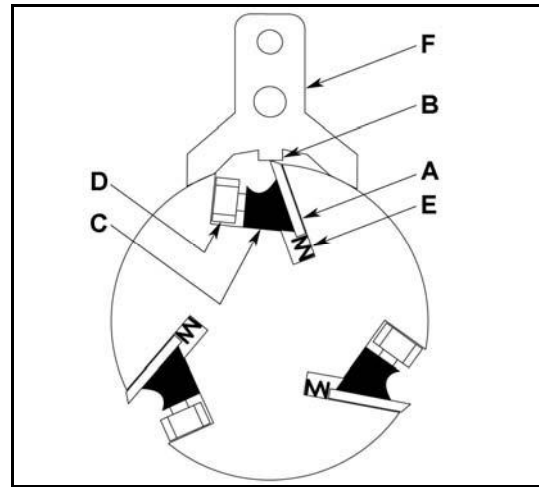
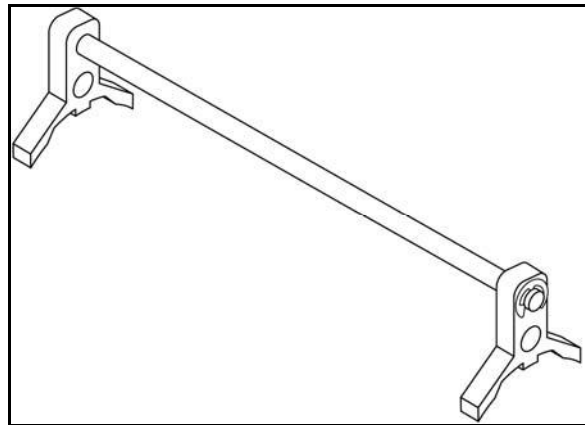
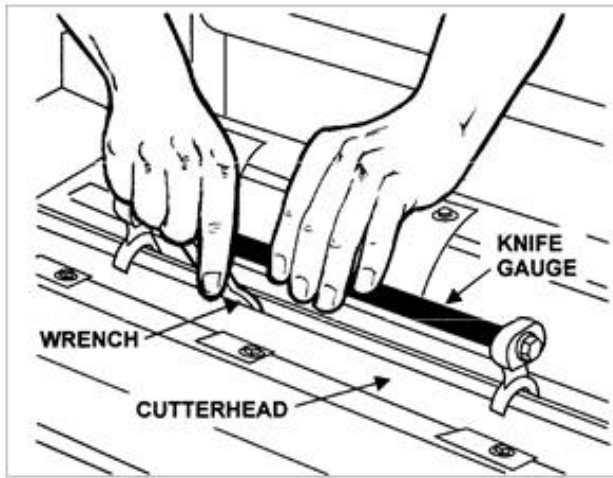

Figure 21
Figure 22
Figure 23
3. To check and adjust the knives, use the provided knife gauge (Fig. 22) and check all three knives. Press the knife gauge against the cutterhead as shown in Figure 23.
Referring to Figure 21:
7. After all three knives are set with screws just snug, back out and tighten the six gib screws (D, Fig. 21 & Fig. 23) of the first knife against the slot starting with the end screws, then the center screws, until the knife is securely held in the cutterhead. Tighten remaining two knives in the same manner.
Refer to Figure 21:
8. Place knife gauge (Fig. 23) over knife. Still referring to Figure 21:
9. While holding down on the knife gauge, loosen all six gib screws (D) by turning them into the gib (C) until cutting edge of knife comes into contact with the protrusion of the gauge (B). Adjust the jack screws higher or lower to touch the bottom of the knife. Snug up the gib by slightly backing out the six locking screws against the slot.